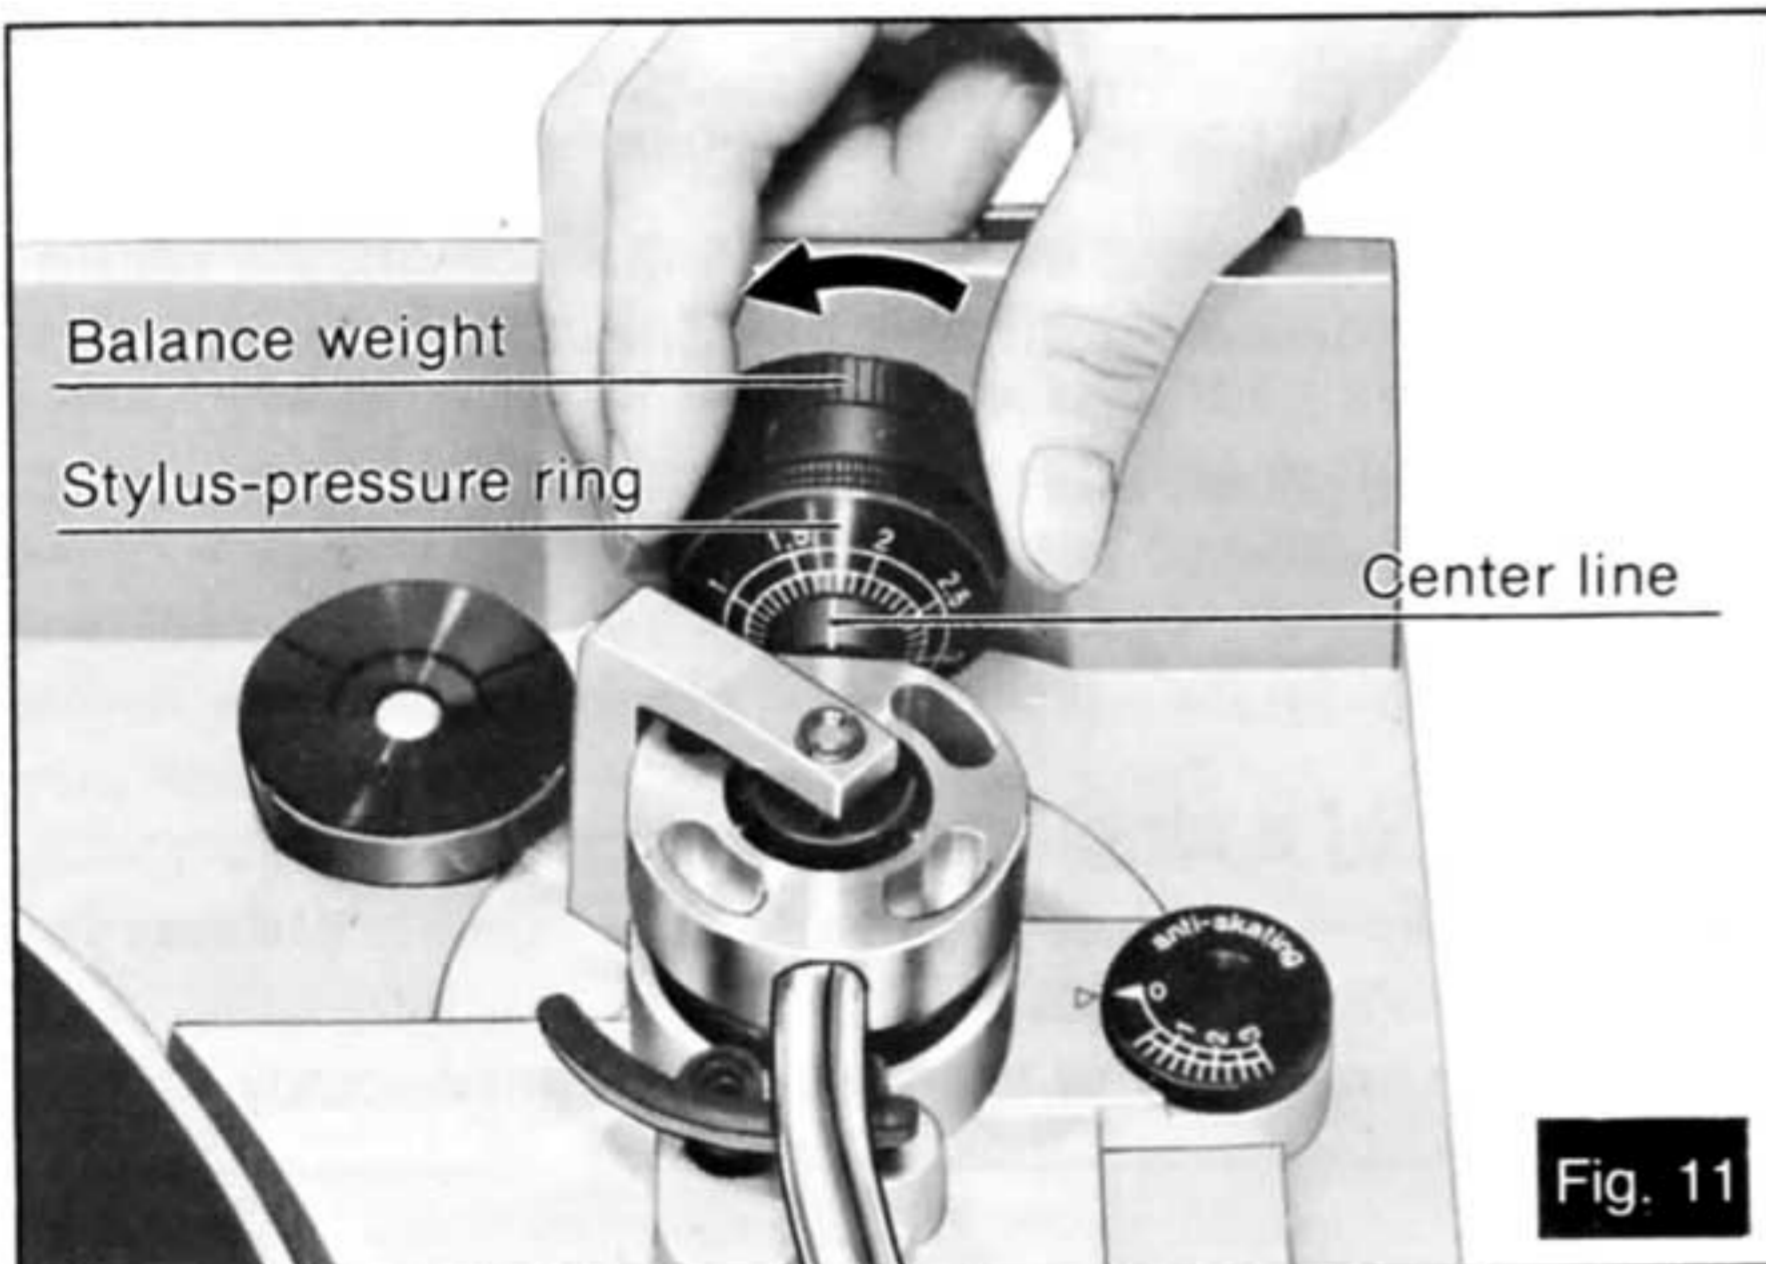

Fig. 11
6. After adjusting the horizontal "0" balance, turn the balance weight clockwise in the direction of the arrow and align to the correct stylus pressure. (Follow the cartridge manufacturer's recommendation.) (See Fig. 11.)